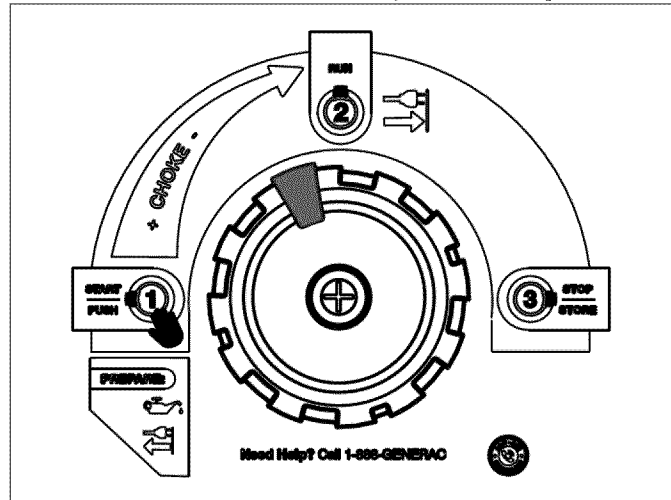

Figure 3-5. PowerDial in the hot restart position
1. See Figure 3-5. To restart a hot generator, turn the PowerDial counterclockwise, from the STOP position, until it is just past the RUN position. This will reopen the fuel valve and permit electric start or recoil starting.